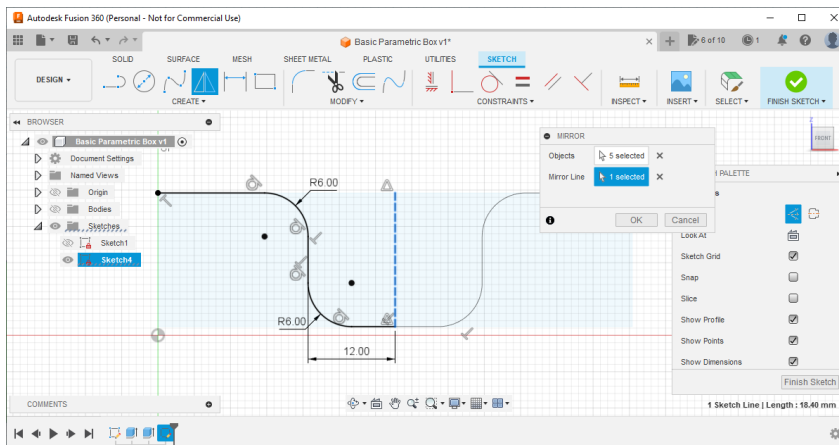

Figure 19: Sketching the outline of the finger hole using lines and fillets
2. Following the general design from Figure 19, sketch a line from the top corner to just about halfway to the center line along the top edge, then another line from that point extending perpendicular until it meets the bottom edge, then a third line from that point extending to the center line along the bottom edge.
5. Use the mirror tool to mirror the left-hand side curve on the right-hand side using the center line as the mirror line as in Figure 19.